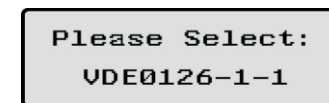

Fig 2-5-1
- A** The LCD will quickly switch to and stay at the 'Please select' interface after power on, as Fig 2-5-1.